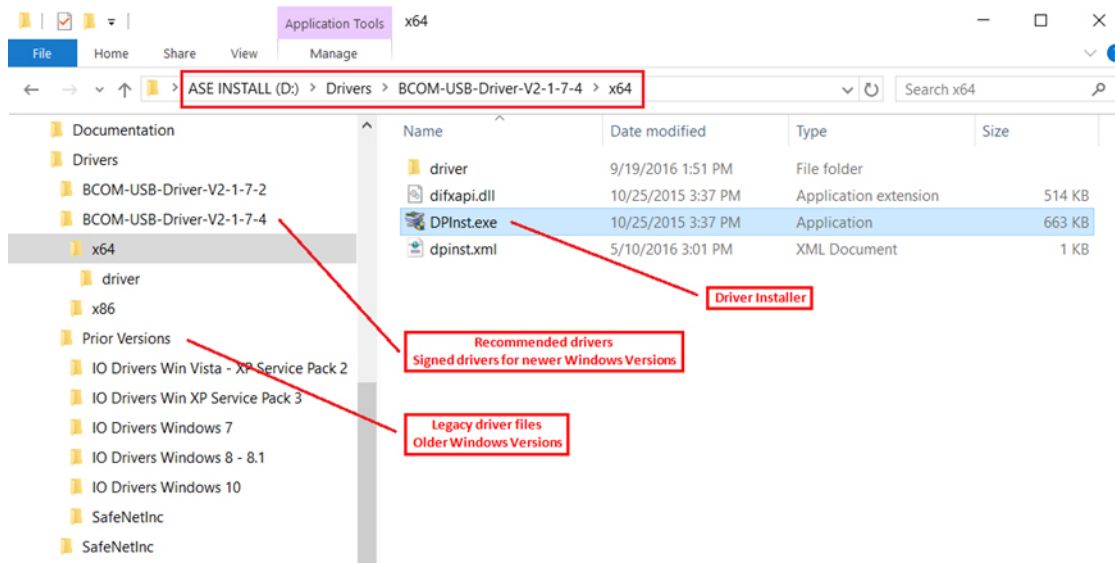

Figure 6: Locating the driver files
The Drivers folder on the ASE Installation & Documentation USB Drive is shown in Figure 6 - Locating the driver files.
- If using the ASE Installation media, refer to Figure 6 - Locating the driver files